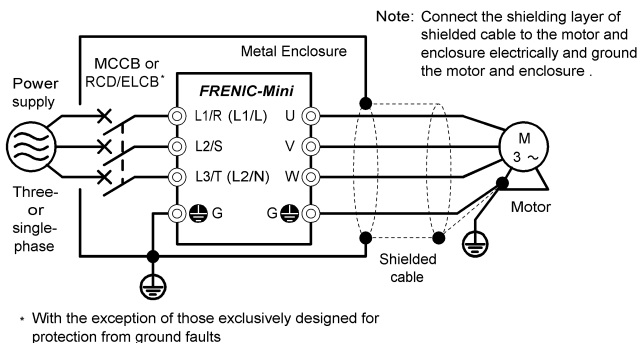

Figure 11.3 Installing the Inverter into a Metal Enclosure
- (4) If noise from the inverter exceeds the permissible level, enclose the inverter and its peripherals within a metal enclosure as shown in Figure 11.3.